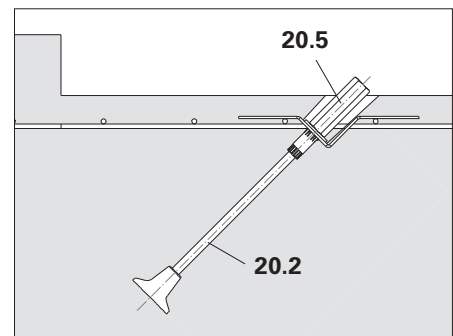

Fig. A2.02b
10. Attach Hex. Nut DW 15 SW 30/108 (20.5) to Tie Rod DW 15 (20.2). (Fig. A2.02b)